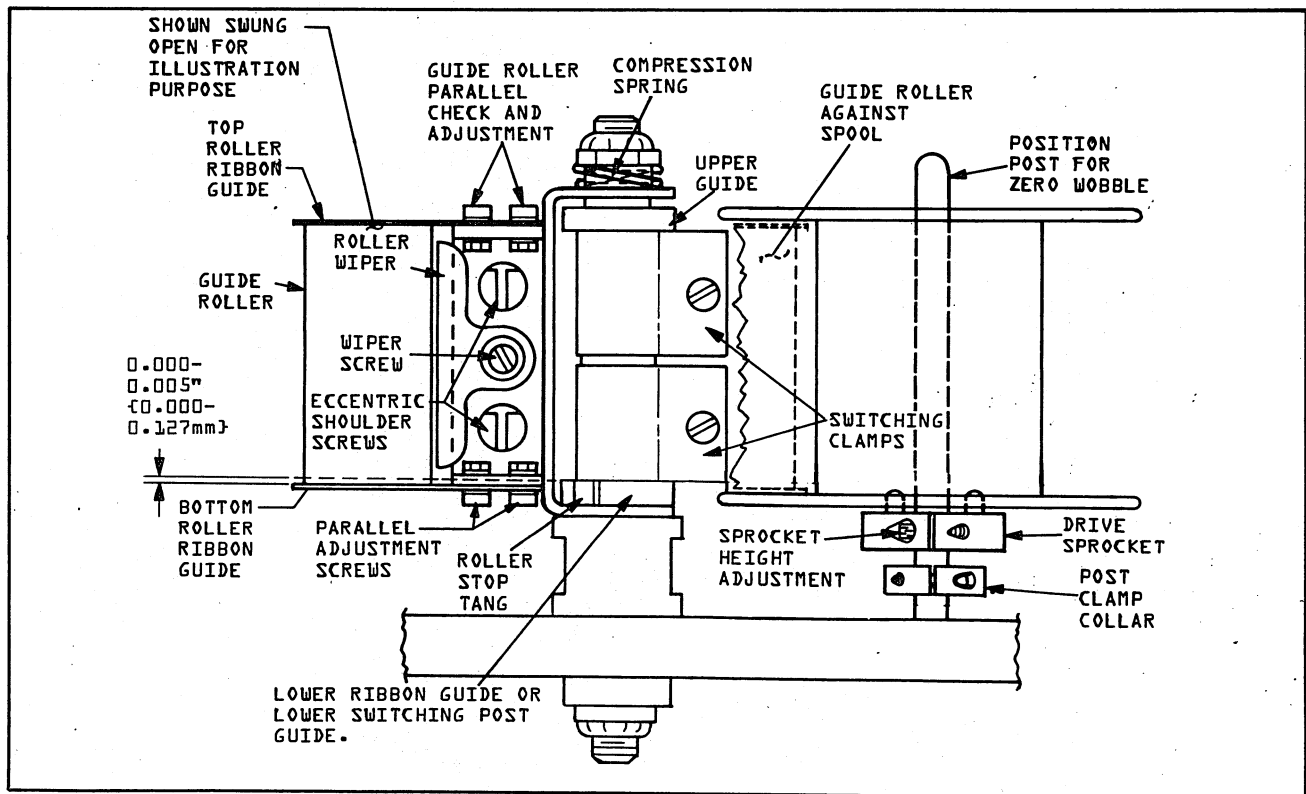

FIGURE 5-21D. ROLLER SWITCHING POST ASSEMBLY
The ribbon is adjusted to just barely ride against the top surface of the lower ribbon guide on the switching posts (see Figure 5-21D). The guide roller must move freely between the ribbon spool flanges with only light contact. The ribbon spool may raise slightly off the drive sprocket, but the guide roller must freely center the space between the ribbon spool flanges. The ribbon when lightly contacting the lower ribbon guide on the switching post, may also contact the bottom roller ribbon guide (thin plate holding the roller), see Figure 5-21D. Correct tracking against the guides occur when light contact by the ribbon occurs without folding or buckling of the ribbon fabric.
- Slightly loosen the three nuts on the three vertical screws between the rollers top and bottom guides (see Figure 5-21D). Adjust the top and bottom eccentric shoulder screws so the flats cut on the side of the bolts are located at the top. Snug down the three vertical nuts.
- Swing the guide roller in against the center of the empty ribbon spool. Check to see the roller touches vertically against the center of the ribbon spool (see Figure 5-21D). If either top or bottom fails to touch the spool, then barely loosen the four small allen head screws holding the roller guides. Gently move the roller against the ribbon spool and tighten the four screws.
4. Stop the ribbon system to make slight tracking adjustments and check to see the eccentric shoulder screw nuts are still snug before restarting the ribbon. Adjust either the upper or lower eccentric screw to vary ribbon tracking. Adjust the upper eccentric counter clockwise or the lower eccentric clockwise to track ribbon downward. Tighten the upper and lower eccentric shoulder screw nuts without moving the screws (see Figure 5-21D).